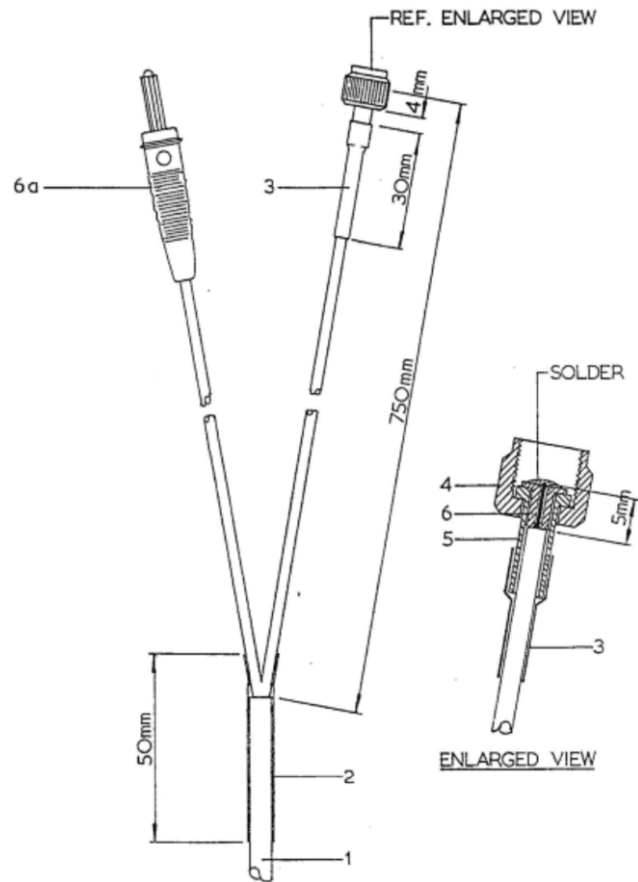

Figure 3
1. Divide 750 mm of twin mains flex (1) and secure using 30 mm of heat-shrink tubing (2).
3. Slide heat-shrink tubing (3) retaining nut (4), insulating bush(5) and brass contact (6) onto one of the dividing cables.
7. Attach bunch plug to the remaining end of the cable in figure 3 (a).
Repairs can be made individually to the positive (+) end with steps 2, 4, 5, and 6 and to the negative (-) end, by following steps 2 and 7. However, the shortened ends of the cable might be difficult to assemble conveniently onto the current meter, and it is usually preferable to reconstruct the cable as detailed in figure 3.